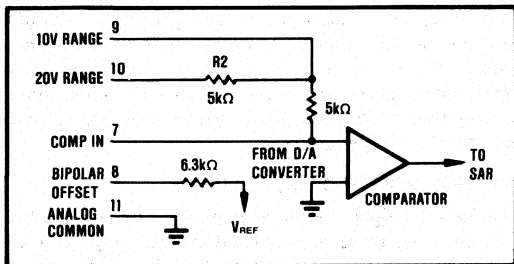
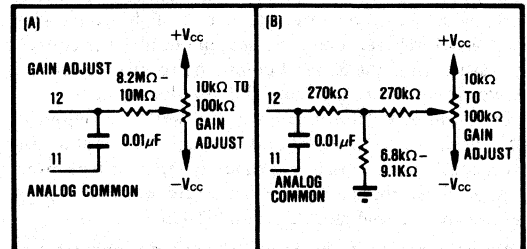

FIGURE 3. ACD804 Input Scaling Circuit.
FIGURE 6. Two Methods of Connecting Optional Gain Adjust.
input range as indicated by Table II. The input circuit architecture is illustrated in Figure 3. Use of external padding resistors to modify the factory-set input ranges (such as addition of a small external input resistor to change the 10V range to a 10.24V range) will require matching of the external fixed resistor values to individual devices, due to the large tolerance of the internal input resistors. Alternatively, the gain range of the converter may be easily increased a small amount by use of a low temperature coefficient potentiometer in series with the analog input signal or by decreasing the value of the gain adjust series resistor in Figure 6.
**GAIN**—Connect the gain adjust potentiometer as shown in Figure 6. Set the input voltage to the nominal plus full-scale value minus 3/2LSB. Once again referring to Table 1, this value is  $+10V - 7.32mV$  or  $+9.99268V$  for the  $-10V$  to  $+10V$  range. Adjust the gain potentiometer until the output code is alternating between  $000_H$  and  $001_H$  with an approximate 50% duty cycle. As in the case of offset adjustment, this procedure sets the converter end-point transition to a precisely known value.